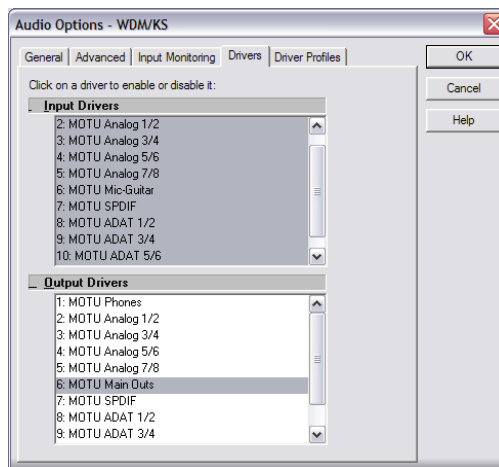

Figure 8-2: Activating the MOTU FireWire Audio WDM driver in SONAR by highlighting 828mkII inputs and outputs.
- 3 Highlight the 828mkII inputs and outputs that you wish to use and unhighlight the ones you don't as shown in Figure 8-2.
Once you've enabled the 828mkII inputs and outputs in the Drivers tab of the Audio Options window (Figure 8-2 on page 59), 828mkII audio inputs and outputs will appear in Sonar's input/output menus, and you can set them up and use them as any standard audio input and output. If you don't see the optical inputs and/or outputs, check the MOTU FireWire Audio Console to make sure they are turned on and set to the format you need. If you don't plan to use the optical input or output, turn it off to conserve computer bandwidth.